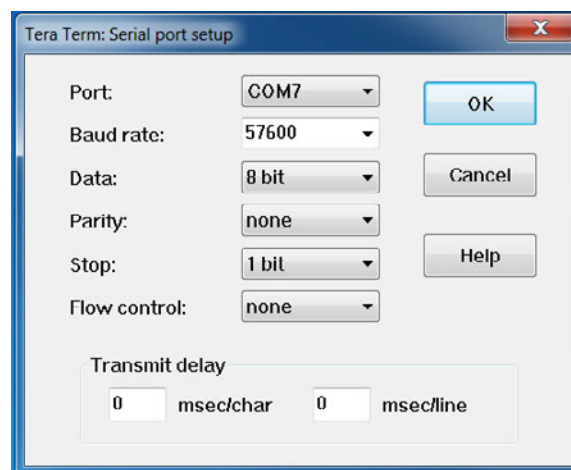

Figure 6-9 • Tera Term Serial Port Setup
5. In the new pop-up Tera Terminal, click **Setup** and choose **Serial Port**. Enter the configuration as follows (Figure 6-9):